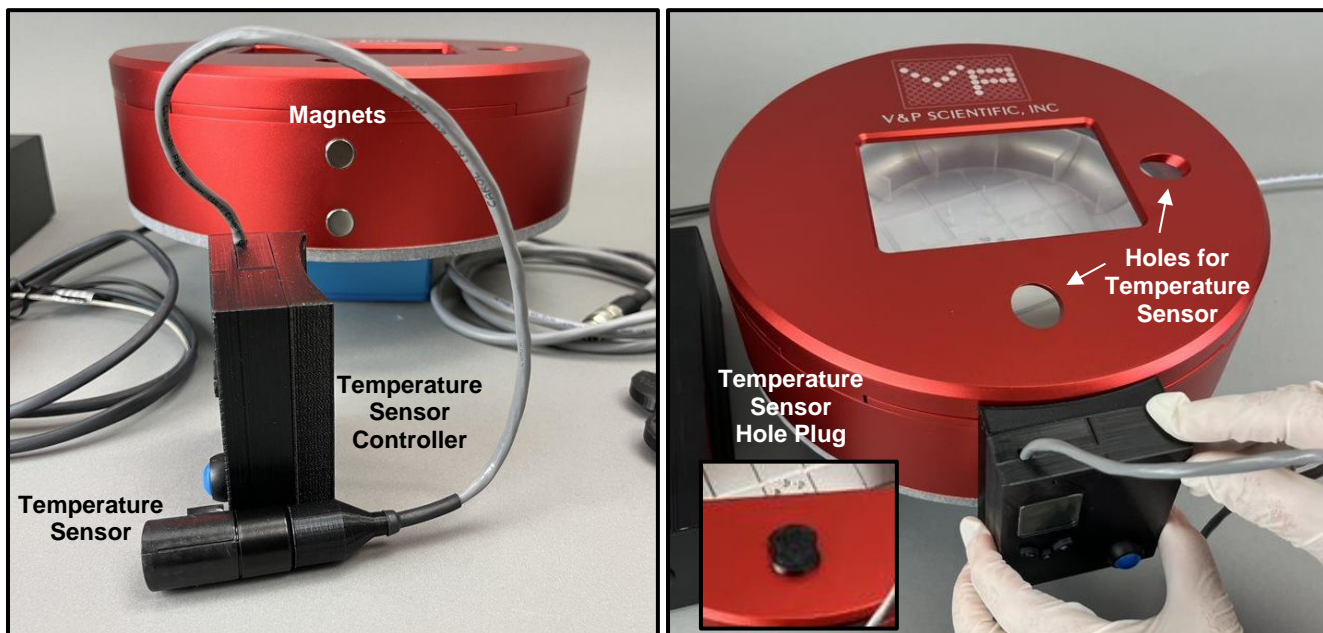

Figure 5. Attach the external Temperature Sensor Controller.
5. The Circle Heater has two temperature sensors, one internal and one external. The internal one controls the heating of the Circle Heater. The external one, composed of a control box and a non-contact infrared sensor, can monitor the temperature of the heated and mixed solution (see Figure 5). The Temperature Sensor Controller can be easily attached to the Circle Heater by engaging the magnets that are inside the Controller and with the ones in the side of the Heater. Just be careful to keep fingers away from the back of the Controller when doing this as the magnets are strong and fingers can be pinched!